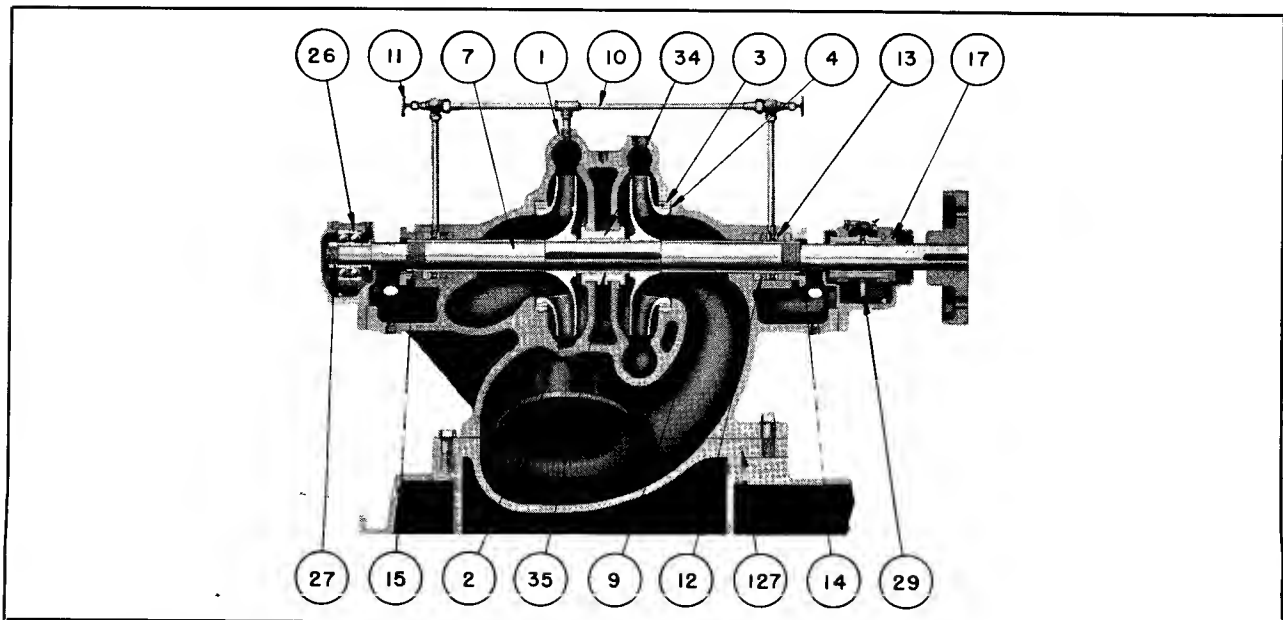
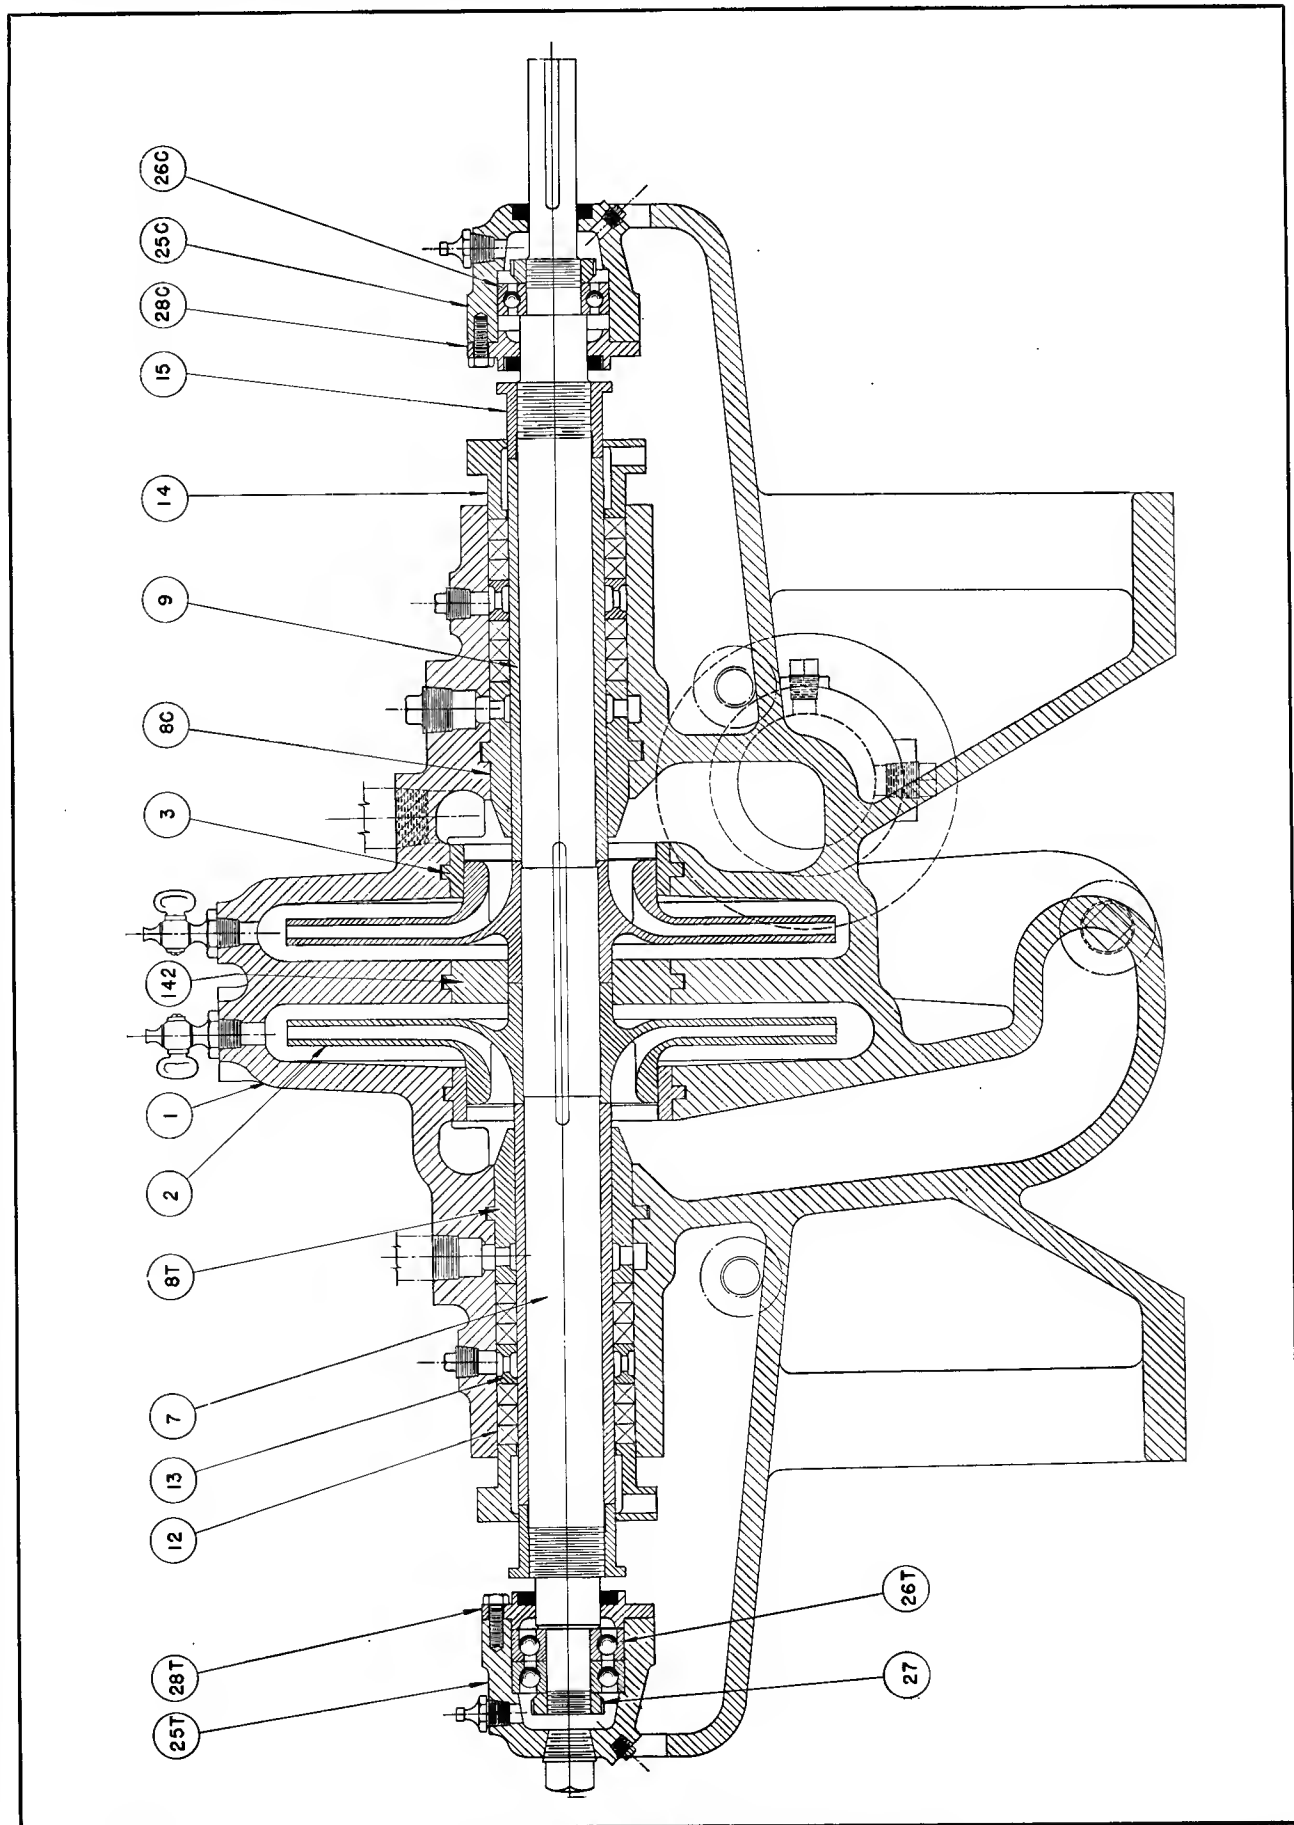

Fig. 23 — Type HYC Pump.
Fig. 24 — Type B-2 Pump.
13. Type B-2 (Fig. 24) and Type HYC (Fig. 23) Pumps